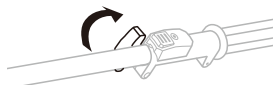

Fig.3A
2. Loosen the wing knob to release the shaft (Fig.3A).